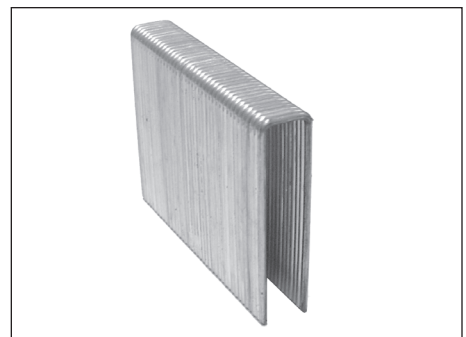

Figure 9 - Staples
**STAPLES** — A type of fastener used to fasten tongue and groove hardwood flooring (see Figure 9).